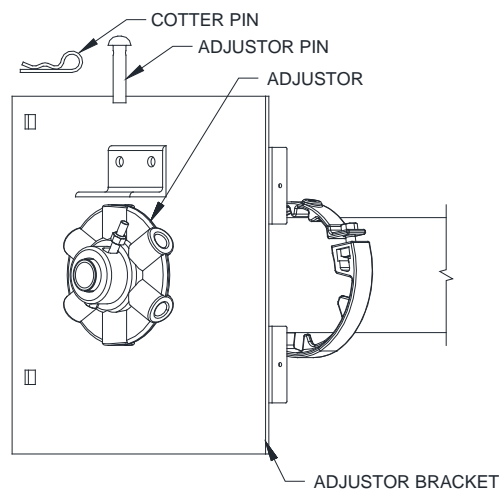

Figure 8.5 – Pinning the Adjusting Wheel
5. Replace stop pin or bar into adjustor wheel as shown in **Figure 8.5** and insert the cotter pin to hold it in place.